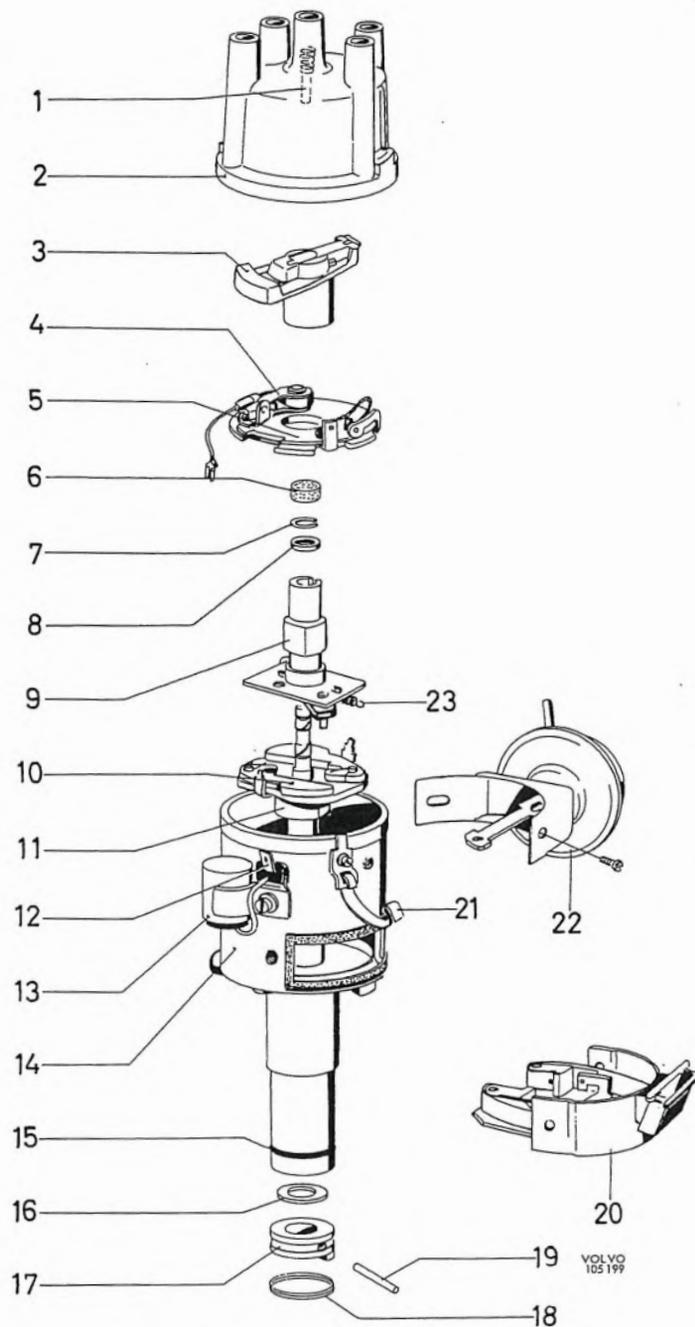
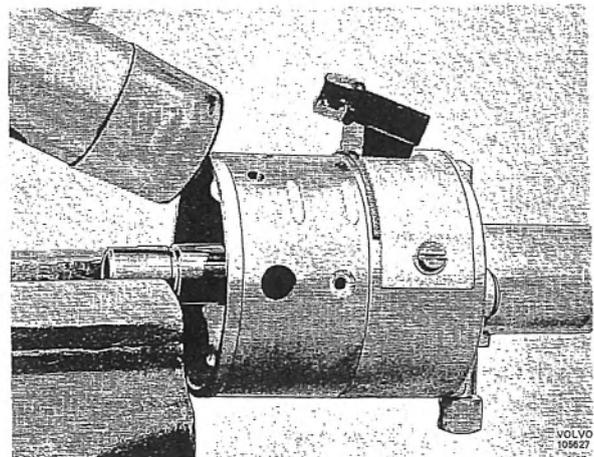

Fig. 3-74. Distributor
Fig. 3-77. Removing circlip
4. Disconnect the springs for the centrifugal governor and mark up how the ignition cam is located in relation to the distributor shaft. Secure the breaker cam in a vice with soft jaws. Carefully knock on the distributor housing with a plastic mallet (Fig. 3-77) until the snap ring (7, Fig. 3-74) has released and lift off the ignition cam.